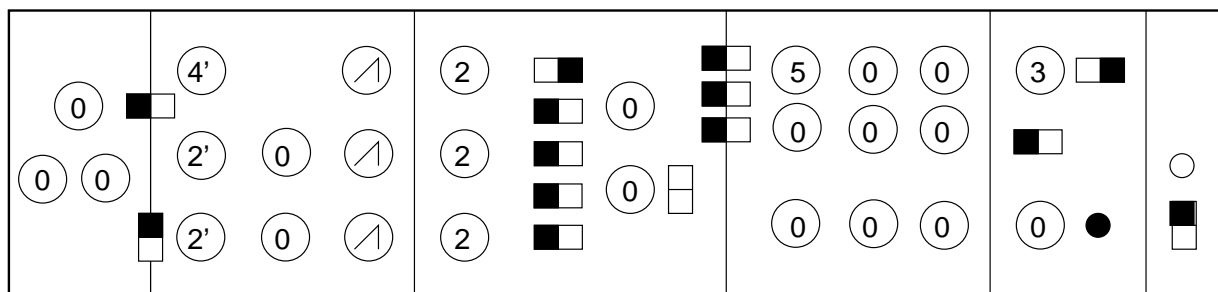

Figure 1
2. Set front panel controls as shown in Figure 1 and make sure Pitch Bender Wheel is in center position.